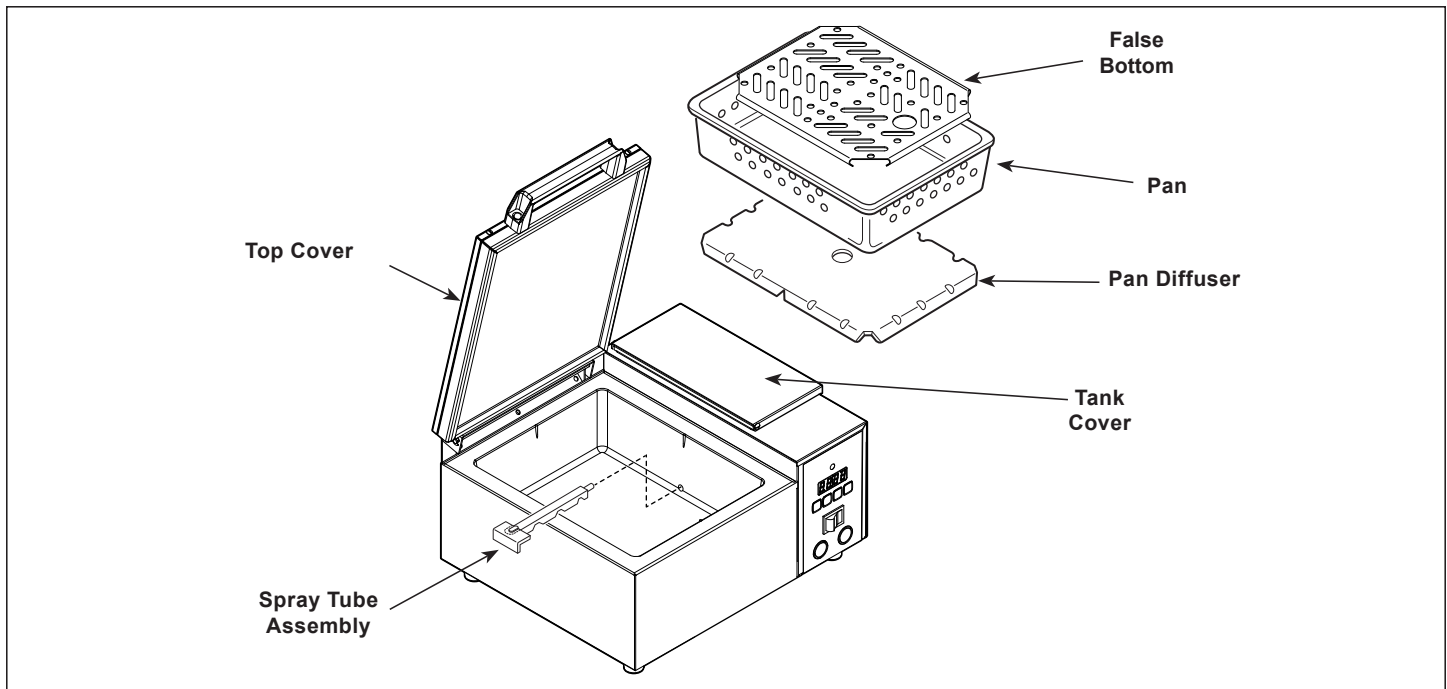

Figure 5. Components (DFW-150 Shown)
7. Remove the False Bottom, Pan, and Pan Diffuser (Figure 5).
9. Wipe down the Top Cover and the entire exterior of the unit (Figure 5) with a clean, hot, damp cloth (not dripping wet) and wipe dry.
3. Remove the Spray Tube (Figure 5) by lifting the loose end and pulling it out of the generator hole.